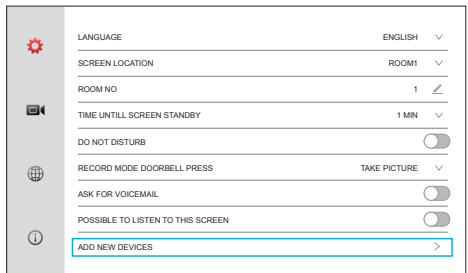

Figure 13
Step 1: At the standby state, press , to enter system main menu, Click , to enter the interface as Figure 13, then click "ADD NEW DEVICES" as shown on the figure.